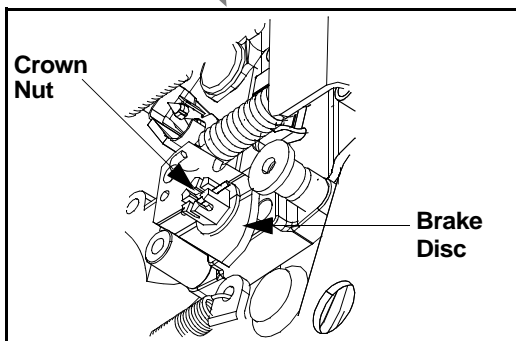

Figure 8
- From the right side of the tractor, locate the brake rod and brake disc. See Figure 8 inset.